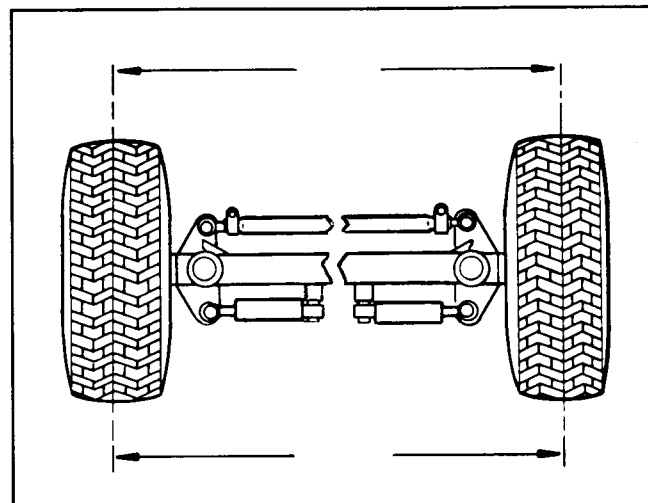

Figure 11
2. Measure center-to-center distance (at axle height) at front and rear of steering tires (Fig. 11). Front measurement should be 0 to 0.12 in. less than rear measurement.